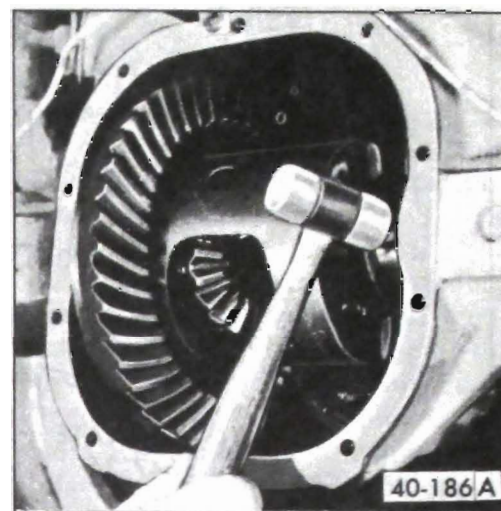

Figure 40-156 Installing Differential Adjusting Shims
2. Place differential case and bearing assembly in position in carrier. Use service type adjusting shims totaling same thickness as production type adjusting shims if either new or reused bearings are to be used. Slip left shims in position at left bearing with steel shim next to bearing, then place .140" shim for right side in position and drive steel shim carefully into position between bearing and case shim using a soft hammer. See Figure 40-156